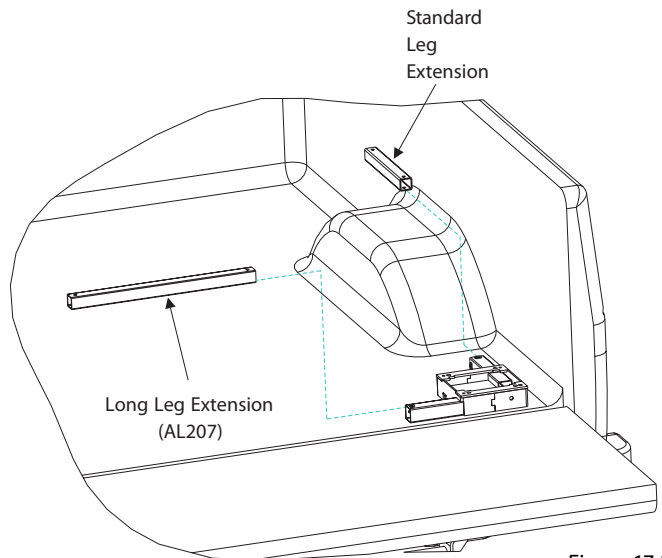

Figure 17-2
2. **Install leg extensions** into base tubes and extend them as far as they will go. The Long Leg Extension should run parallel with the bumper. Set screws can be hand-tightened at this time. [Figure 17-2]